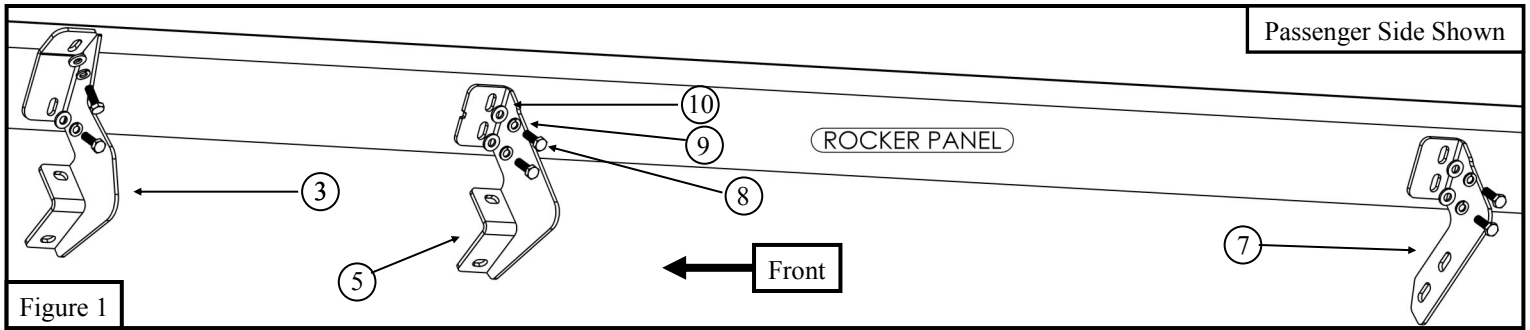

Figure 1
- Start installation on passenger side of the vehicle. Locate mounting locations with factory threaded holes with screws or caps installed in them. Remove factory screws or caps from threaded holes, factory screws will not be used again. Locate (1) Front Mounting Bracket (item 3) and loosely install it to the front mounting location on the rocker panel using (2) M8 hex head cap screw, (2) M8 split lock washer, and (2) M8 flat washer (Items 8-10). Locate the Center/Rear Mounting bracket (item 5 & 7) and loosely secure in the correct mounting locations on the rocker panel. Loosely install using the provided M8 hardware (Items 8-10). **See Figure 1.**